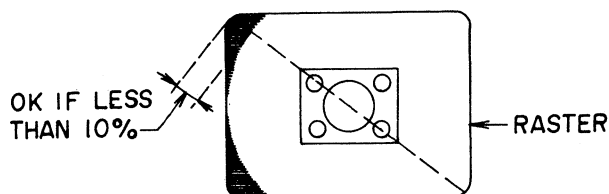

Fig. 2-8
At this time, turn Zoom Lever to wide (10) position. If there is a black shadow at the corner of picture as shown in Fig. 2-8, the center of the Vidicon and the center line of lens do not come together. Loosen coil assembly holding screw and move coil assembly up and down and to right and left until the black shadow becomes minimum. Tighten screw.